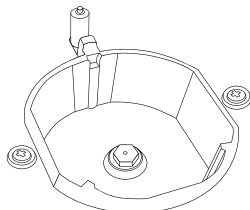

Figure 17
3. As seen in Figure 17, demount burner lid and burner of the hob and ensure visibility of injector.